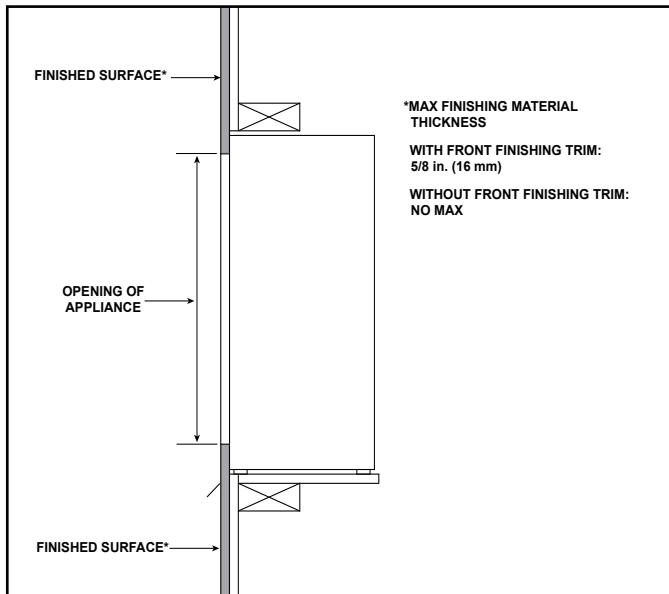

Figure 4.7 Finishing Around a Permanent Built-in
- See Figures 4.7 and 4.8 for more information regarding wall and enclosure construction required to prevent moisture penetration into the structure. The appliance will shed moderate amounts of water but is not waterproof.
Maximum finishing differ between built-in overlap and recessed installations. Refer to Figure 4.7 and 4.8.